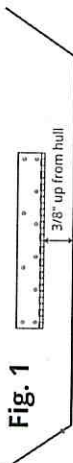

Fig. 1
1. The Airboat trim tab is always mounted in the center of the boats transom with the bottom of the hinge 3/8" (.95 cm) up from the bottom of the transom. (see Fig. 1).